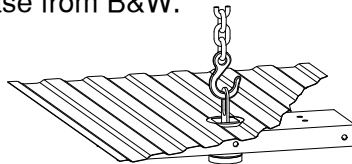

Figure A1.
4. **Prepare a lifting device (optional).** The purpose of the device is to safely hold the hitch in position during part of the installation. See Figure A1 for an example. A simple mechanical lifting device is available for purchase from B&W.